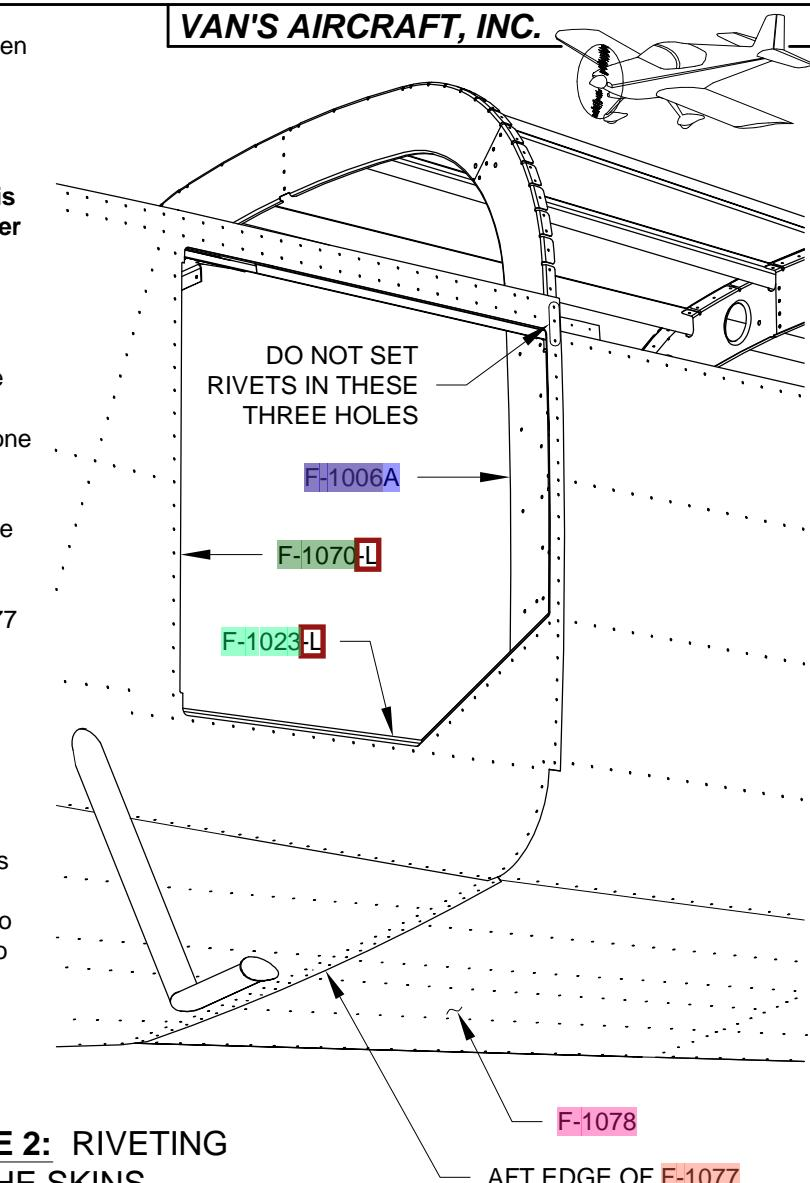

FIGURE 2: RIVETING THE SKINS
Step 12: Rivet the skins to the F-1006A, B, and C Bulkheads. As indicated in Figure 2, do not set the three rivets at the top of the F-1070-L and F-1070-R Mid Side Skins which are common to the F-1074 Tailcone Forward Top Skin.
Step 16: Rivet the F-1070-L and F-1070-R Mid Side Skins to the F-1046-L and F-1046-R Mid Fuse Longerons respectively. Again, as indicated in the Figure 2, do not set any rivets in the holes which are common to the F-1074 Tailcone Forward Top Skin.